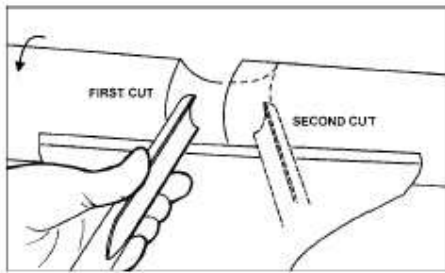

FIG.9
3. With the flute facing the opposite direction, repeat step 1 for other side of cove. Stop at bottom of cut, see Figure 9.